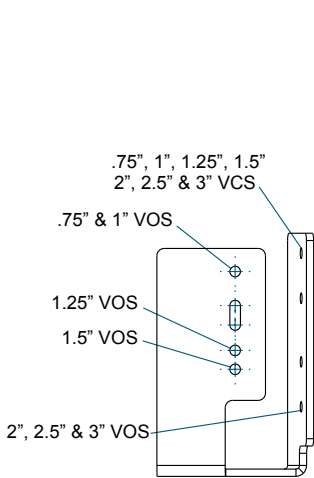

Figure 4:
- Note wand position and mounting hole location. Carefully remove the 2 screws and lift existing switch. Reference Figures 4 through 9 (page 49) to ensure correct switch location.
- Reference Figures 4 through 9 (below) to ensure correct switch location. Valve size is depicted in the model number by the first 4 dig-its. For example, a 3" CP valve should have Model No. 300C.